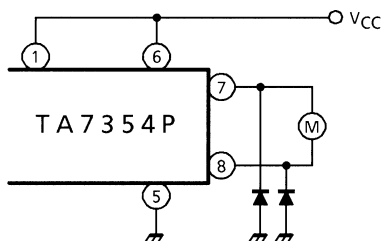

Fig. 3
- (2) If the braking operation is so loose, connect a additional diode between each output to GND. (See Fig.3)
- (3) If the back electromotive pulse generated in output coil is so strong.